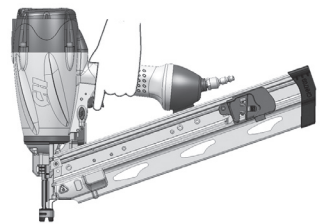

Figure 20
6. Remove nailer from work surface. The WCE must return to its original down position. Pull the trigger (See Figure 20). The nailer **MUST NOT OPERATE**. Do not use the tool if it operates while lifted from the work surface. Personal injury may result.